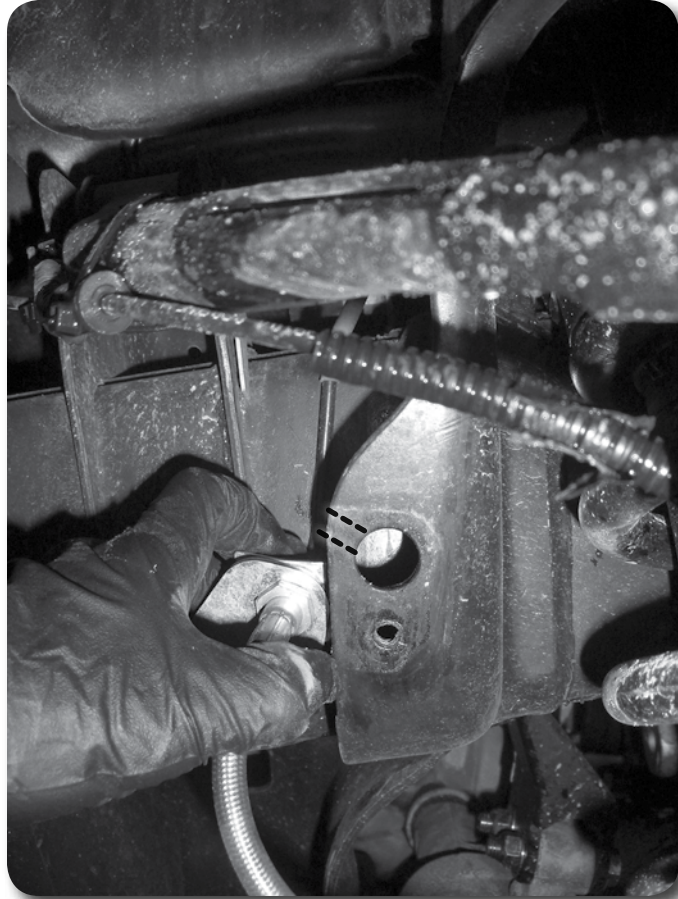

Figure 2
8. Disconnect the brakeline hardware from the strut tower and pull the brakeline through the mount. Cut a slot to allow the brakeline to be removed from the frame. If you do not wish to cut on the coil bucket, the line can be disconnected and reconnected after it is removed from the frame. **Figure 2**